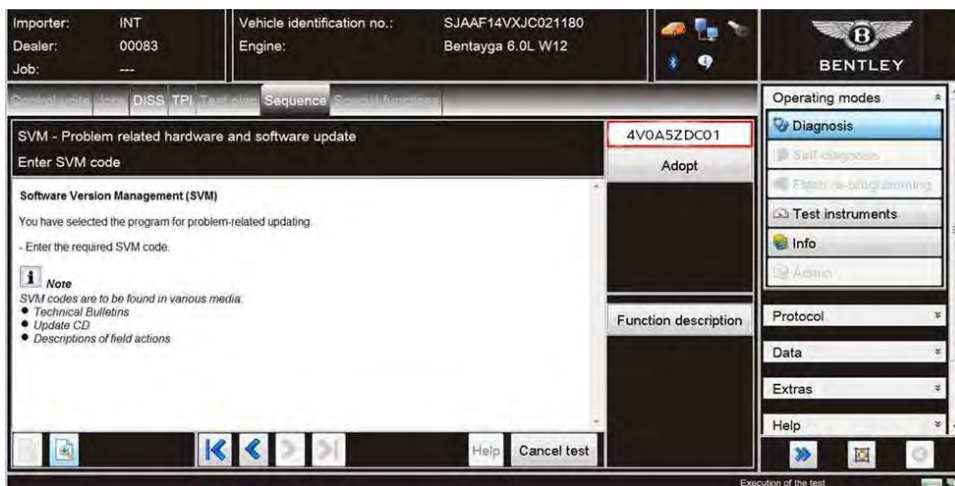

Figure 2
2. On the next screen enter the SVM code **4V0A5ZDC01** and select Adopt (Figure 2). On the following screen confirm code is correct.